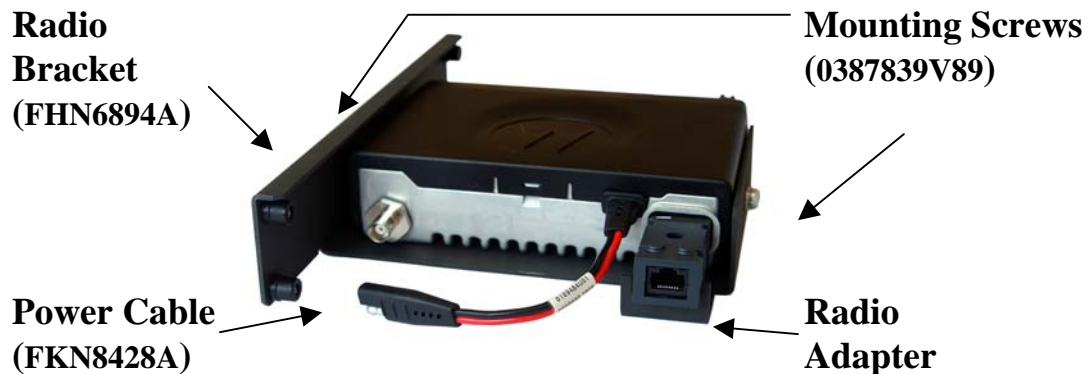
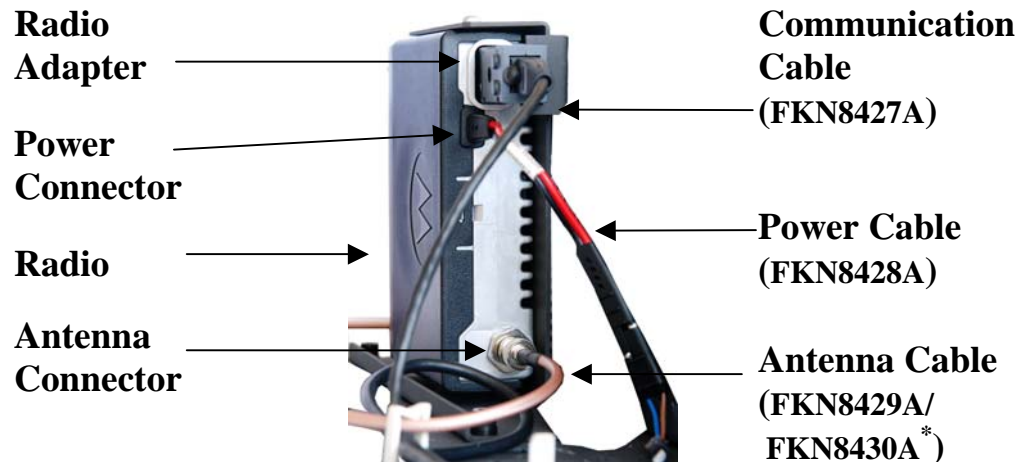
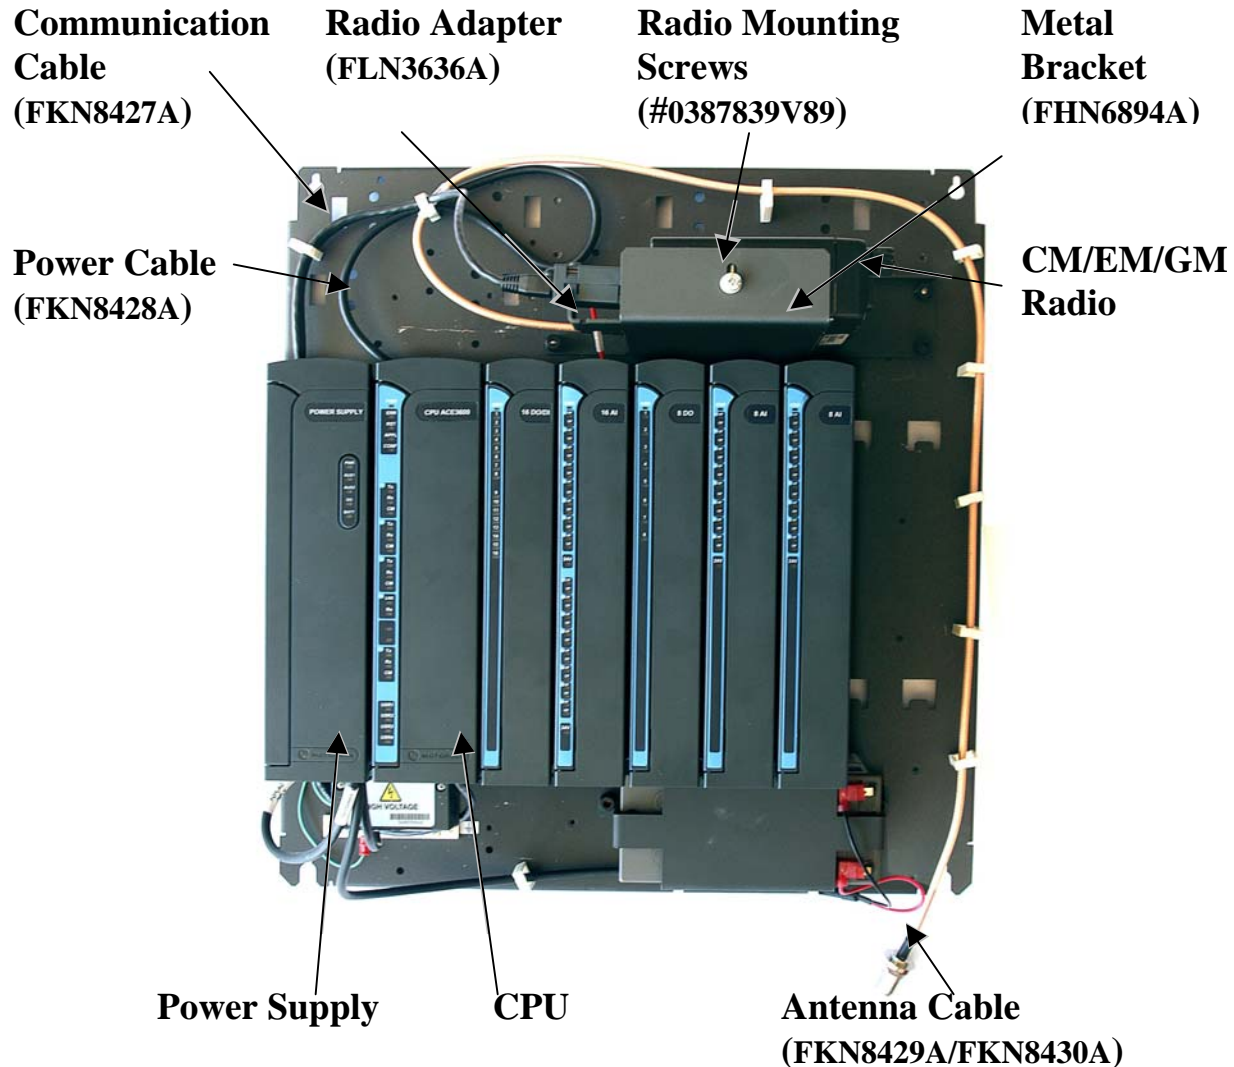

Figure 13-33 CM/EM/GM Radio, Adapter and Power Cable
Figure 13-34 CM/EM/GM Radio Cable Connections
Figure 13-35 CM/EM/GM Radio Installed on ACE3600 Chassis
2. Connect the 16-pin connector radio adapter (FLN3636A) to the accessory connector on the radio. (See Figure 13-33.)
3. Connect the power cable (FKN8428A) to the radio's power connector. (See Figure 13-33 and Figure 13-34.) Connect the other end of the power cable to the AUX1A or AUX1B connector on the ACE3600 RTU Power Supply unit. (See Figure 13-35.)
4. Connect the communication cable (FKN8427A) to the back of the radio adapter (FLN3636A) connector (10-pin RJ45 connector). (See Figure 13-34.) Place one Fair-Rite soft ferrite (#7683477X01 from the supplied ferrite kit FHN7007A) on the cable near the bottom of the CPU door, loop the cable one turn around it, and clamp the ferrite on the cable. Connect the other end of the communication cable to the plug-in port of the ACE3600 CPU.
5. Mount the CM/EM/GM radio onto the metal bracket (#0789422V45) using the two supplied radio mounting screws from kit FHN6894A, # 0387839V89 on the top and bottom of the radio. (See Figure 13-33, Figure 13-34 and Figure 13-35.)
6. Connect the antenna cable (FKN8429A/FKN8430A*) to the antenna connector on the radio and to the opening on the bottom of the ACE3600 housing using the four supplied screws. (See Figure 13-34 and.) Mount the complex (bracket and radio) on the RTU chassis above the CPU and I/O modules, using the four built-in screws. (See Figure 13-35.)